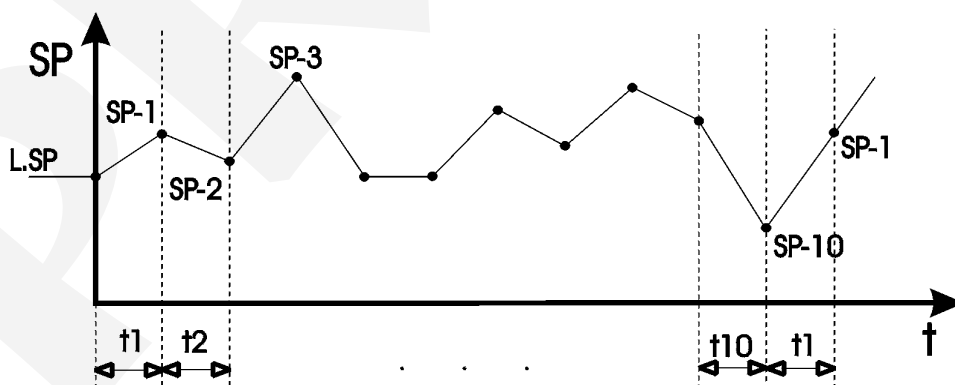

Fig. 30 - Evolution of the programmable setpoint
- iii) Adjust the gain value (PROP), also called sensitivity, until reaching a limit value in which the controlled variable will show a uniform oscillation, i.e., with constant amplitudes (see figure 30). Values above that limit produce amplifying oscillations, whereas gain values below that limit will dampen those oscillations. By ultimate sensitivity ( $K_u$ ) it is meant that limit gain and by ultimate period ( $P_u$ ) it is meant the period of constant oscillation caused by this sensitivity.
Figure 30 shows an illustration of a wave form obtained from the setpoints programmed by the user. Note that the first setpoint (SP-1) is reached from the local setpoint and that after running the programmable setpoint the value to be used for the local setpoint will be the last value obtained by the programmable set-point.